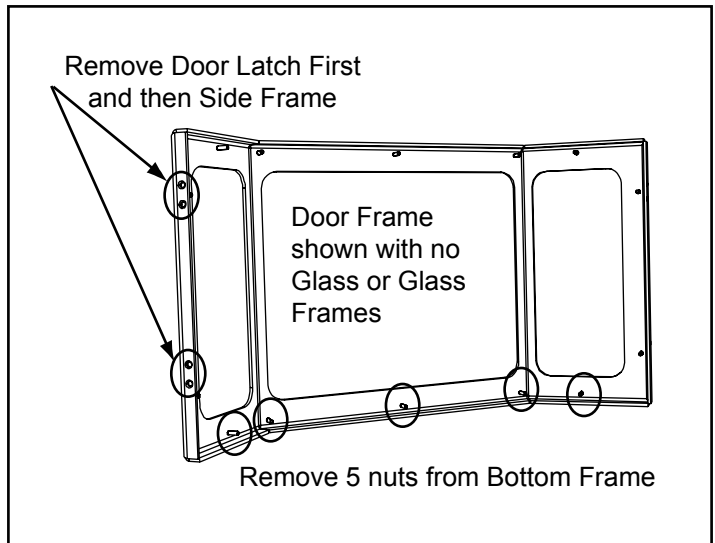

Figure 34.2
- Using a nut driver remove the (5) bottom nuts and remove the bottom glass frame. **Figure 34.2.**